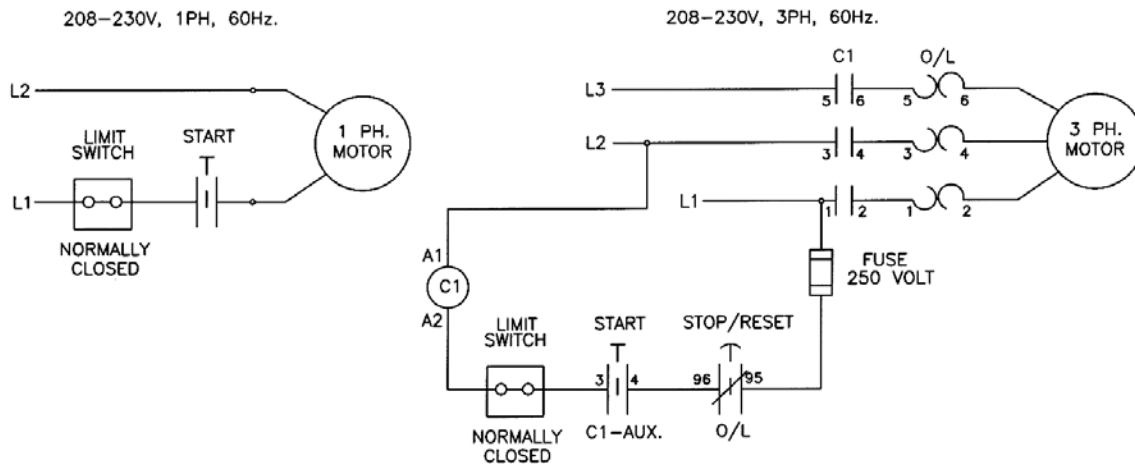

Figure 9 – Electrical Diagram
2. Bolt power pack to the mounting bracket on the power side tower using four (4) 5/16"-18UNC x 1"LG. hex head bolts, four (4) 5/16" ID lock washers, four (4) 5/16" ID flat washers and four (4) 5/16"-18UNC hex nuts. Do not tighten.
4. A **certified electrician** must connect the 230Volt/1Ph power to the motor. The electrical diagram is provided, refer to **Figure 9**.
1. Refer to **Figure 9** - arm restraint installation.